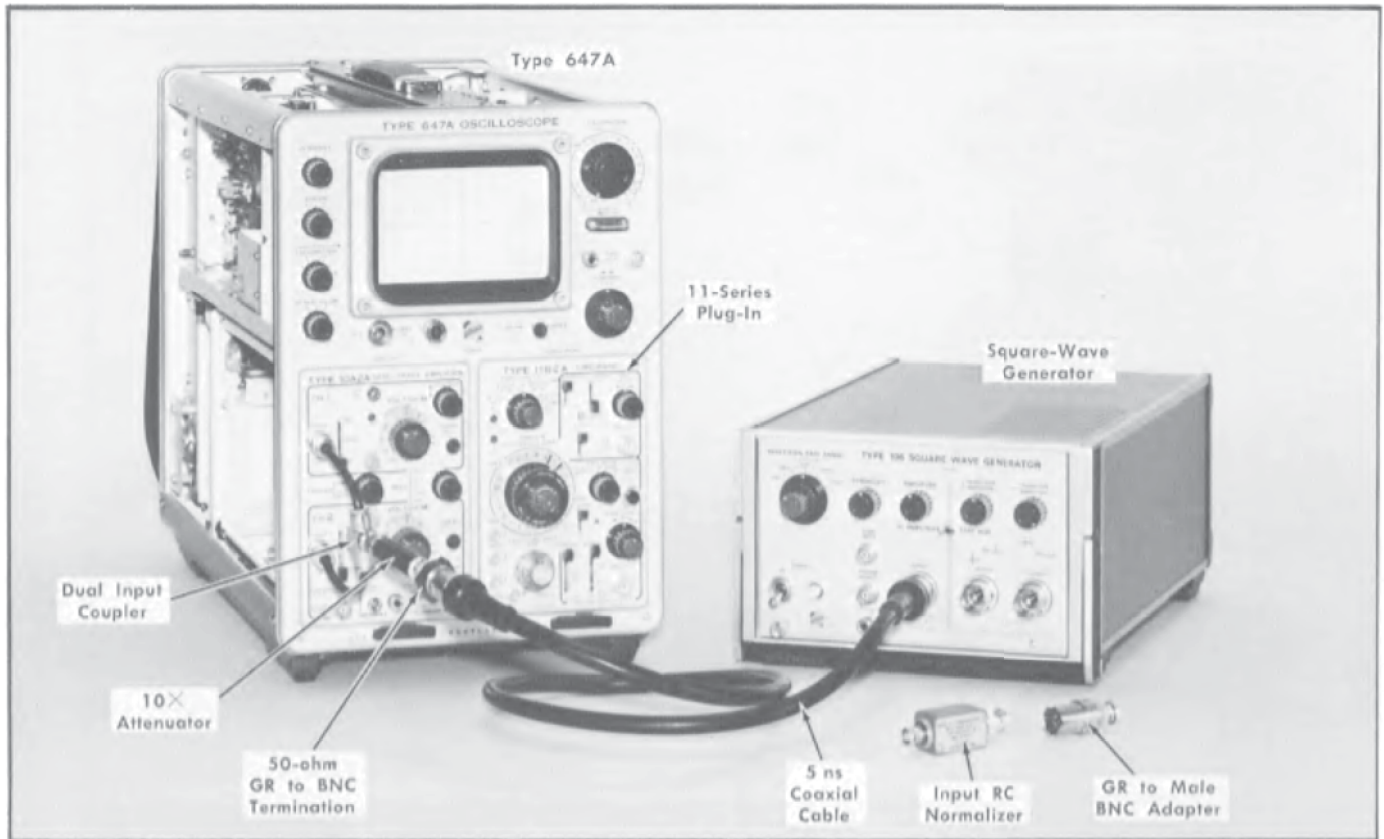

Fig. 6-8. Initial test equipment setup for steps 19 through 24.
19. Adjust Channel 1 Attenuator Series Compensations ❶
- b. Test equipment setup is shown in Fig. 6-8.